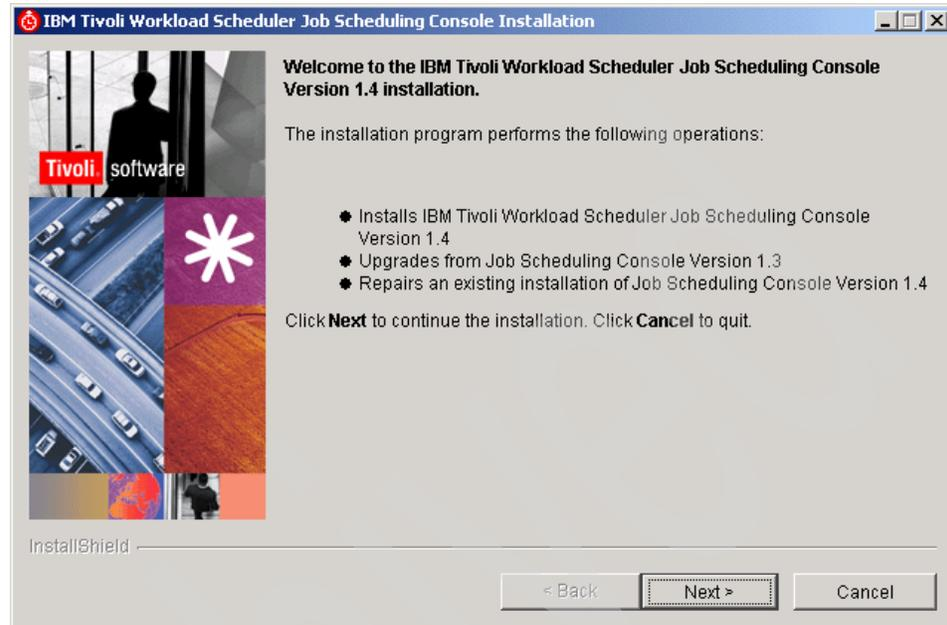

Figure 16-11 Welcome Installation window for JSC Version 1.4
3. At the Welcome window (Figure 16-11) you can repair an existing installation, perform a new installation, or upgrade from a prior version of the JSC.